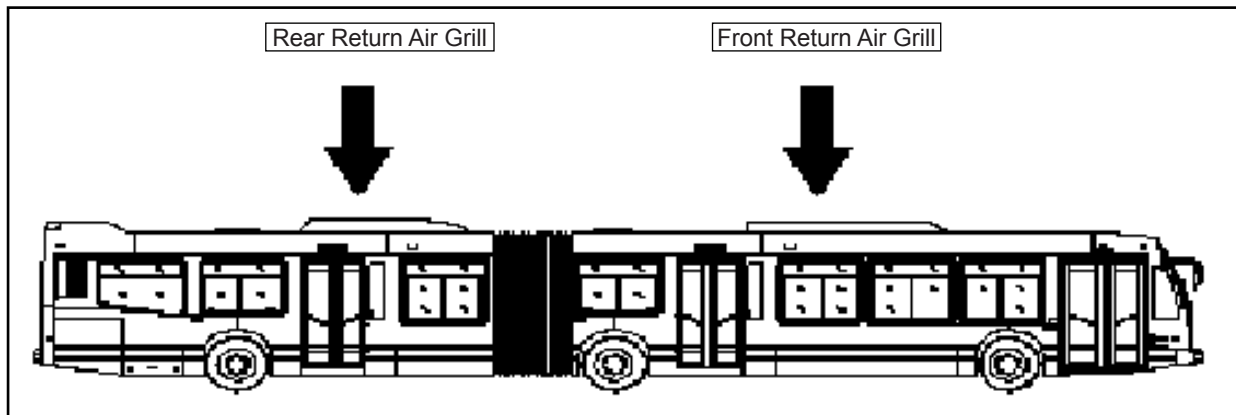

Figure 2 - Typical Location of Return Air Grill
- 1.3. Locate the return air grill present inside the vehicle (see Figure 2).